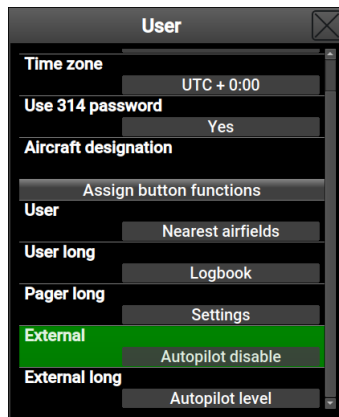

Figure 32: External push button configuration. The example shows autopilot settings, but any other functions can be used instead.
3. Scroll down the window and search for the **External** and **External long** items. Assign them functions of your choice. A typical example is shown on Figure 32. **External** represents the short press event on the external button and the **External long** represents the long press event.